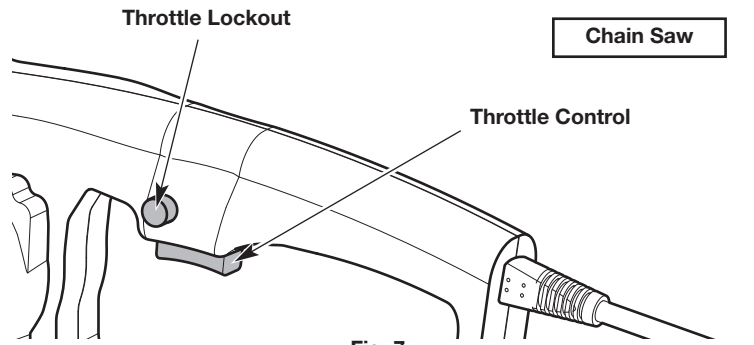

Fig. 7
2. Press and hold the throttle lockout (Fig. 7). Then, squeeze and hold the throttle control (Fig. 7). Refer to *Starting and Stopping*.
1. Press and hold the throttle lockout (Fig. 7 - 9).
2. Continue to hold the throttle lockout. Squeeze and hold the throttle control to start the unit (Fig. 7 - 9).
1. Release the throttle control and wait for all moving parts to come to a complete stop (Fig. 7 - 9).